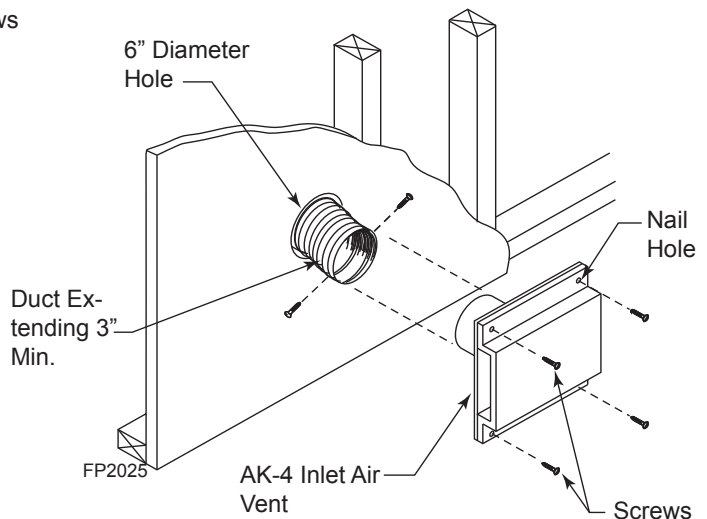

**Figure 14 -**
3. Cut a 6" diameter opening for model OAC-4 in the outside wall covering where the outside vent is to be located. *Figure 14*
5. If using insulating duct, push the insulation back from one end of the duct approximately 2". *Figure 14*